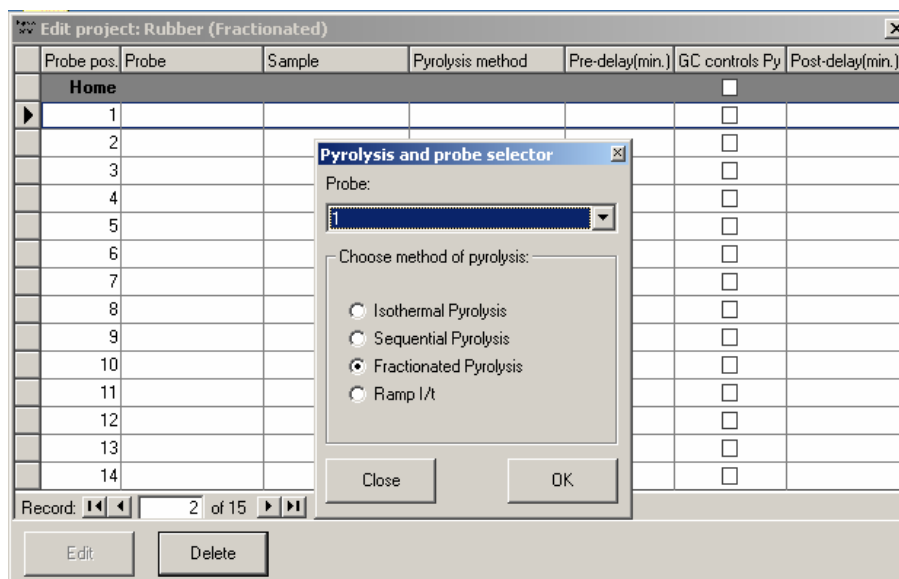

Figure 4-7. 'Pyrolysis and probe selector' window.
- Open the 'Pyrolysis and probe selector', Figure 4-7, by selecting the appropriate Probe text box and click on the 'Edit' button. Alternatively, double-click in the Probe text box.